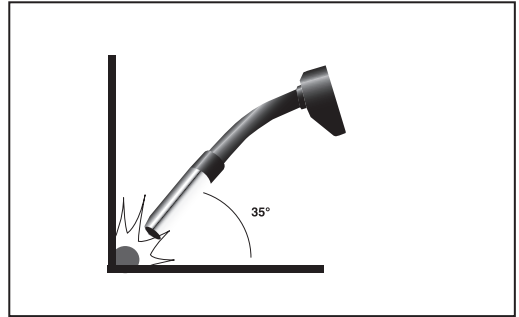

FIG. 7
8.3 MIG WELDING PRINCIPLES – FIGS. 7 – 8